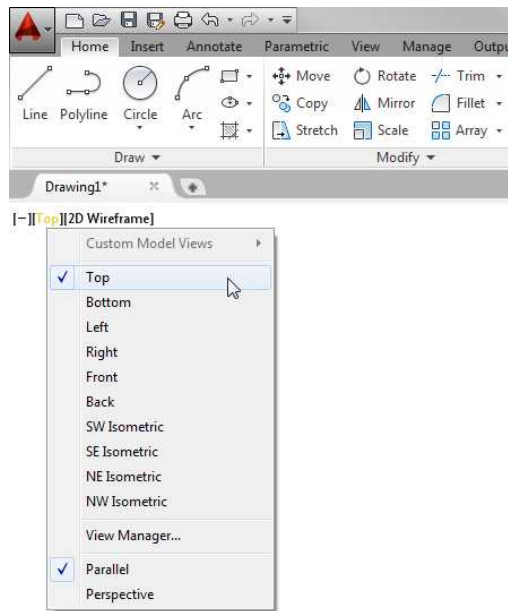

FIGURE 1.5 : Selecting the Top option by using the in-canvas Viewport controls
2. Using the View Controls tool on the in-canvas Viewport controls, select the Top option (see Figure 1.5).